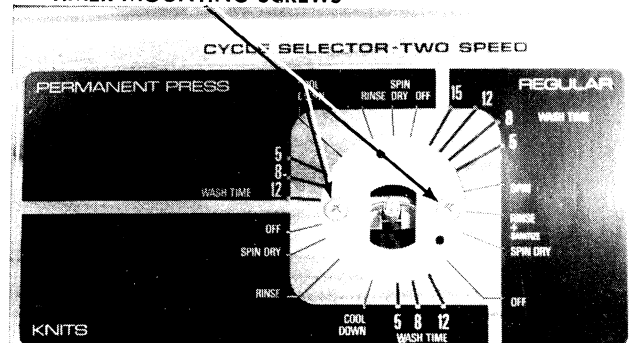

Figure 26
2. Remove the indicator and hub from the shaft in order to get to the mounting screws, Figure 26.